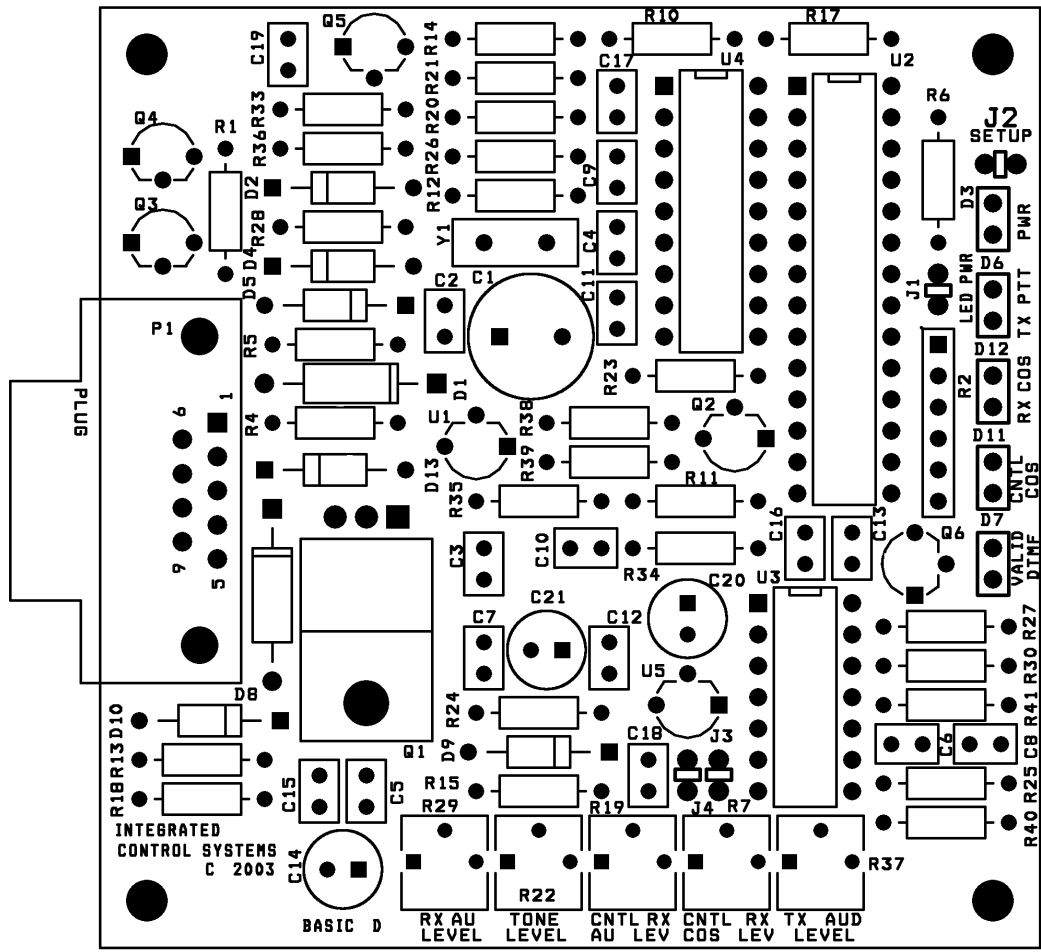

FIGURE 1
9. Next, if you have a scope available, monitor the signal on R20 on the left side of the resistor, make sure that when you are looking at the Basic board the DB 9 connector is facing left (see figure 1).
6. Next, if you have a scope available, monitor the signal on R20 on the left side of the resistor, make sure that when you are looking at the Basic board the DB 9 connector is facing left (see figure 1).